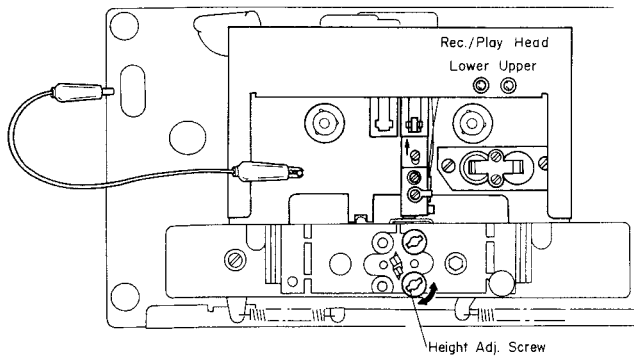
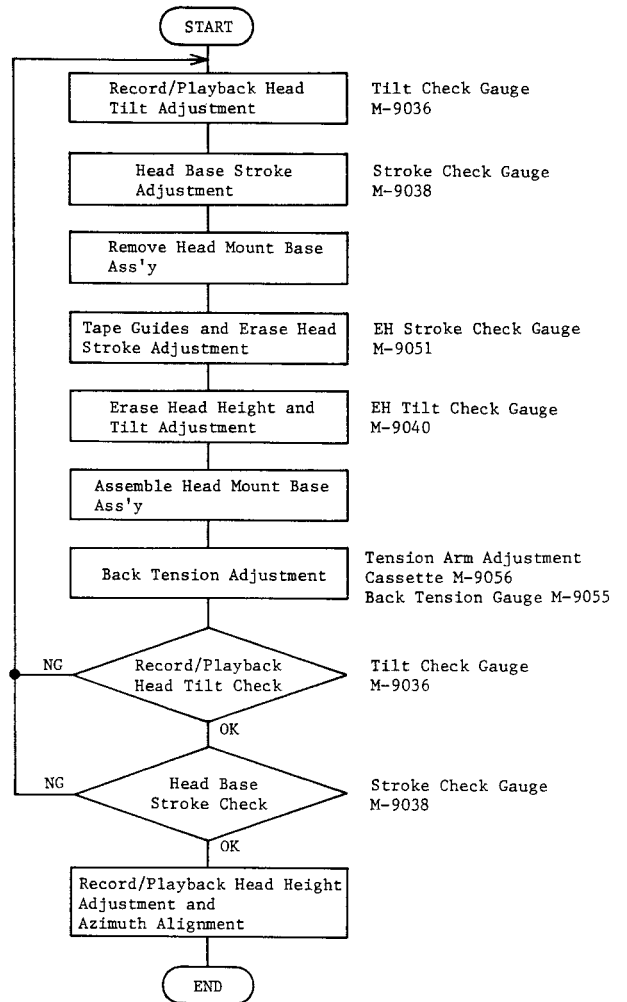

Fig. 4.5
Fig. 4.4
Note: On items 4.3 – 4.8, refer to Fig. 4.4 flow chart. Refer to Figs. 4.5 and 4.6.
- (1) Load a Tilt Check Gauge M-9036 (DA09036A) in the N-480Z.
- (2) Clip the grounding terminal of the Tilt Check Gauge with one end of the cord with clip, and the chassis of the N-480Z with the other end.
- (3) Remove the Height Gear.
- (4) Set the N-480Z in Play mode. Check to insure whether the Beacon "Upper" or "Lower" is illuminating. In order not to give damages onto the record/playback head surface, push the slide knob of the Gauge to the direction of an arrow mark, then return it to the original place to be in contact with record/playback head surface after Play mode is securely locked.
- (5) Check to insure freedom from contact between the Gauge and pad lifter.
- (6) Beacon "Lower" will light on when height adjustment screw turned clockwise but "Upper" when counterclockwise. Adjust so that both "Upper" and "Lower" will light on even when you move the slide knob to the direction of an arrow mark and then return it to the original place.
- (7) Set the N-480Z in Stop mode and fit the serrated Height Gear. Then set the N-480Z again in Play mode and insure 2 Beacons "Upper" and "Lower" are illuminating.